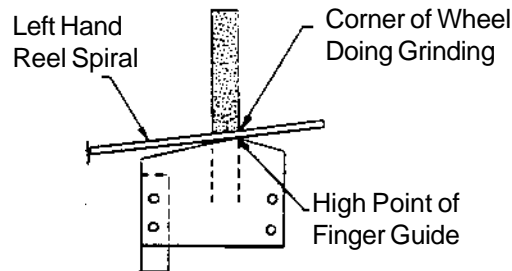
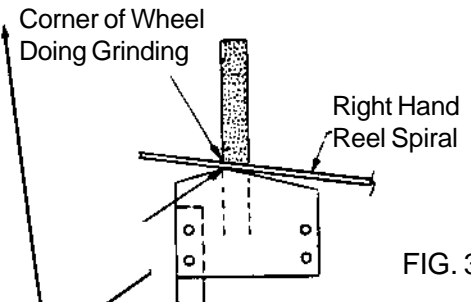
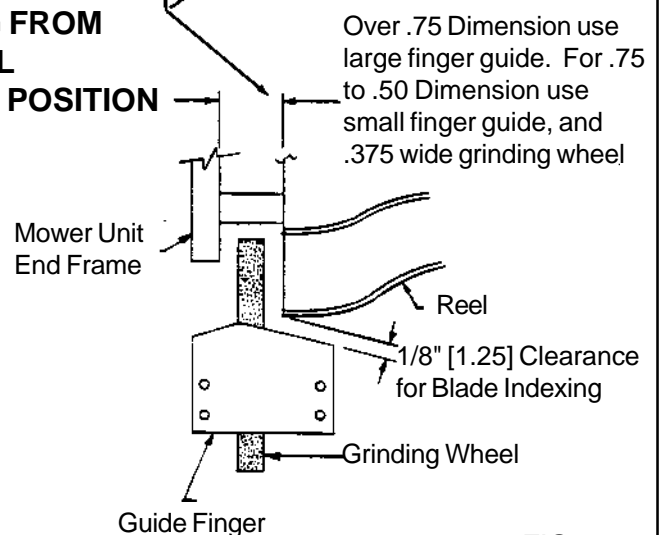

FIG. 35
FIG. 36
FIG. 37
- B. Check to see if your mowing unit is a left hand or right hand spiral. See reel spiral definition above. NOTE: As you look into the guide finger in FIG. 35 it shows a reel with reverse helix reel spiral. The high point of finger guide is on the right hand side of the grinding wheel viewed from the finger mounted side. See FIG. 36 for standard helix. Most mowing units are standard helix so traverse your carriage to the right hand side of reel for starting position. Traverse carriage until there is at least .125 (1/8") clearance to the guide finger for indexing. See FIG. 37. Set the right hand traverse stop for this carriage reversing position. Traverse to the other end of the reel blade until the guide finger is beyond the point of grind by approximately .125 (1/8") to .75 (3/4"). Set the left hand traverse stop for this carriage reversing position.
THE HIGH POINT OF THE GUIDE FINGER MUST ALWAYS BE AT THE CORNER OF THE GRINDING WHEEL THAT IS MAKING CONTACT WITH THE REEL. SEE FIG. 35 & 36.
ROTATE FINGER GUIDE END FOR END WHEN REEL SPIRAL IS IN THE OPPOSITE DIRECTION AS SHOWN IN FIG. 35 & 36.